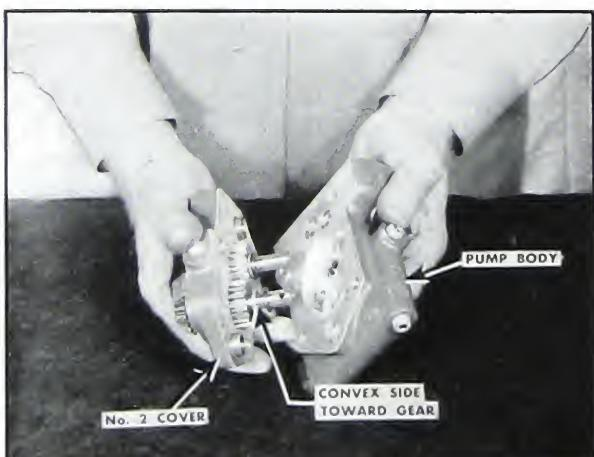

Fig. 5-298. Replace main body
4. Assemble convex washers over gear shafts, follow with rubber seals and assemble main body to No. 2 cover. Fig. 5-298.